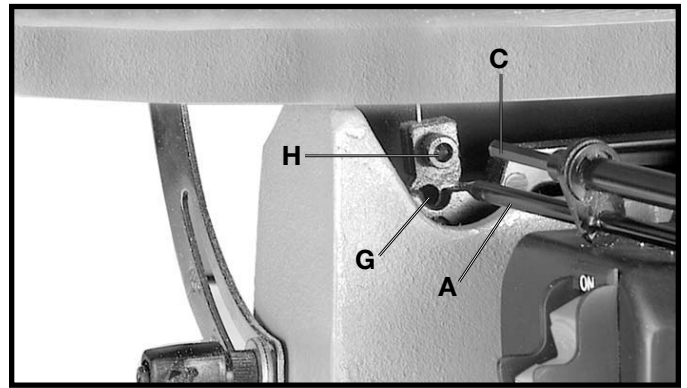

Fig. 16
6. Insert long end (A) Fig. 16, of quickset blade changing wrench into hole (G) in lower blade holder. This will help align wrench (C) with blade holder screw (H).